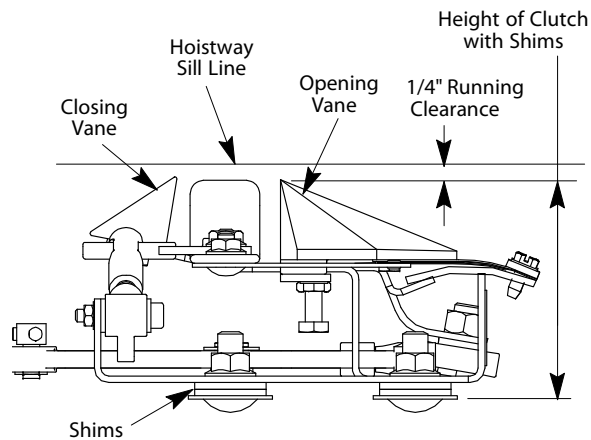

Figure 2 - Clutch Height
1. Compare the height of the clutch with the shims, to the distance from the back of the door to the hoistway sill line. Leave 1/4" running clearance (remove shim, if necessary). Then attach the clutch to the door. See Figure 2.